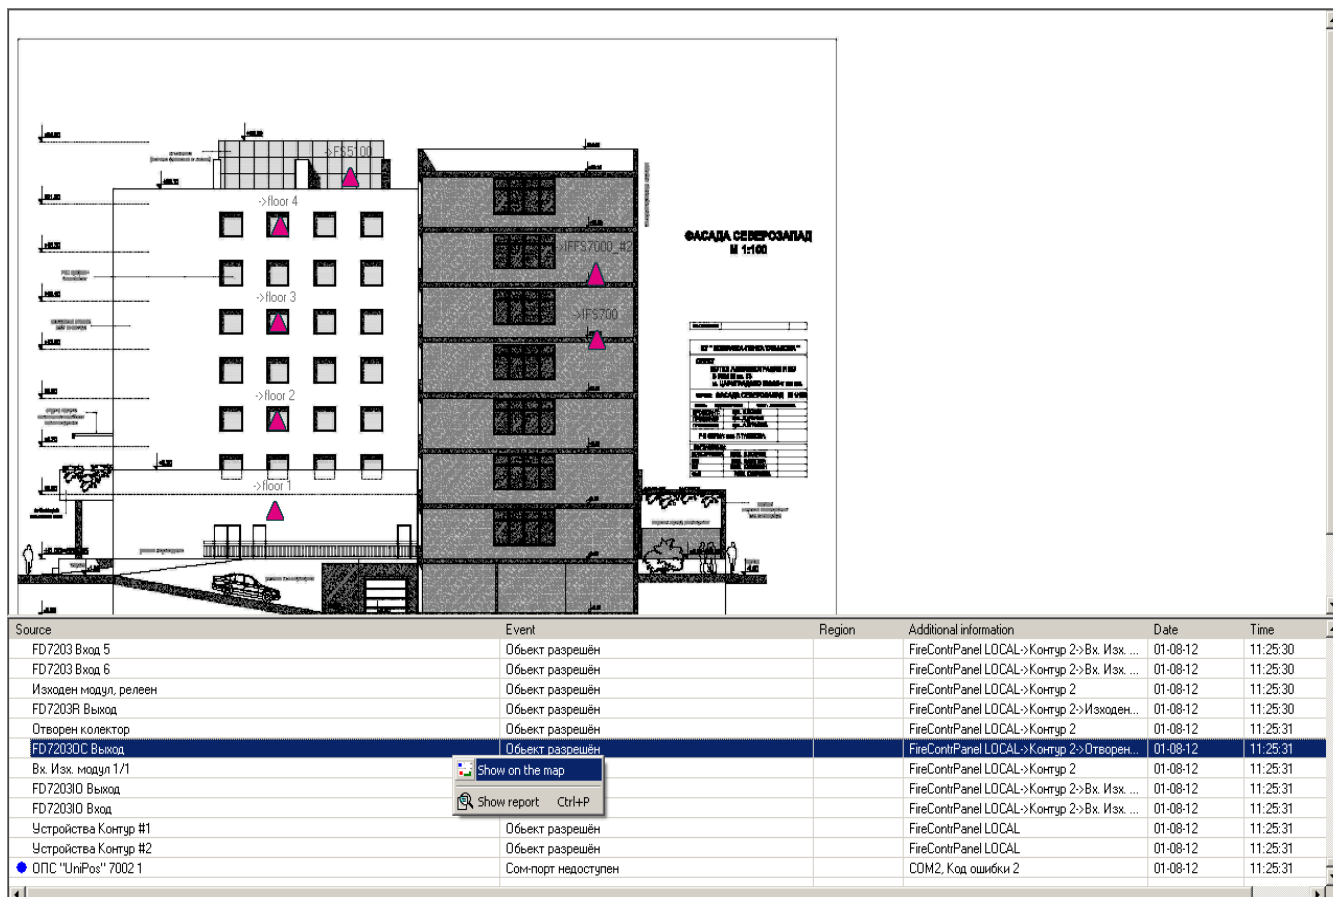

fig. 43
- “Display object on the map” – when this parameter is checked this means that you enable the feature to receive information on demand - where is located the object causing the fault or the fire condition. To receive this info you need to press with right-click on the event and to press “show on the map” (fig. 43);
- “Display report” - when this parameter is checked this means that you enable the feature to be able to print the content of the event viewer with right-click on the event viewer and press “Show report” (fig. 43);